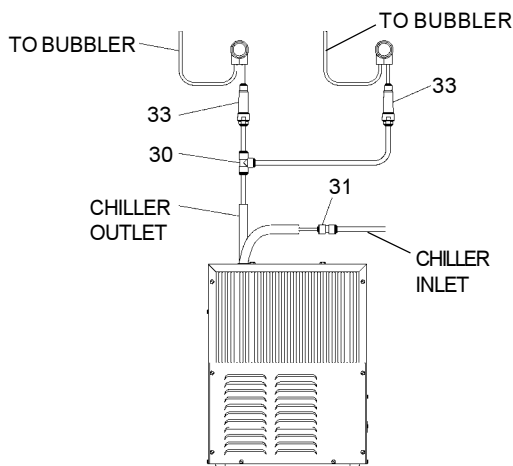
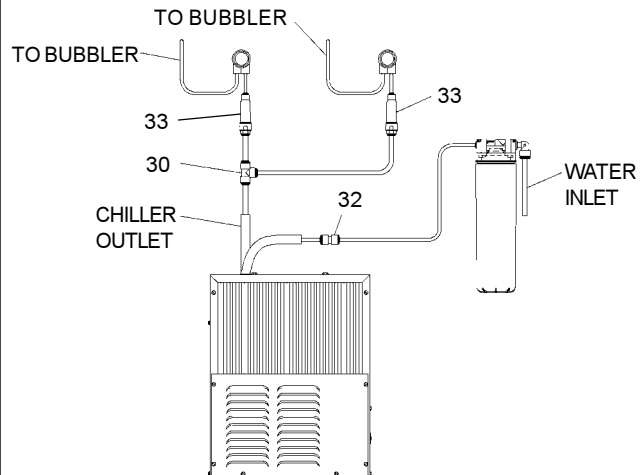
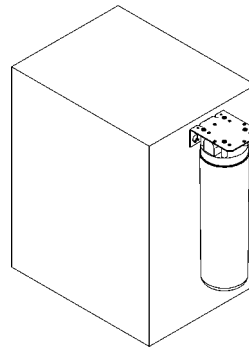

FIG. 5
FIG. 6
FIG. 7
3. **ERHPA MODELS:** Make connection between remote chiller and building supply line. Inlet port is marked on the chiller (1/4" O.D. copper tube). Bend the copper tube (provided) at an appropriate length from chiller to opening in frame. Install a 1/4" x 3/8" union (provided) on the marked chiller inlet port. Connect building supply line to union. (See Figure 5)
**LKTEA MODEL:** Mount filter head assembly to side of chiller (See Figure 7). Make connection between filter and building supply line (3/8" O.D. tube not provided). Inlet port is marked on the chiller (1/4" O.D. copper tube). Install a 1/4" x 1/4" union (provided). Bend the copper tube (provided) at an appropriate length from the filter and connect to the union on the chiller. (See Figure 6).
5. **Install** the fountain. Mount the fountain to the upper panel and the wall frame with (4) 1/4" x 3/4" (19mm) long bolts and nuts (provided). Tighten securely.
7. **ERPA MODELS:** Make connections between remote chiller outlet tube and fountain strainer. Outlet port is marked on the chiller (3/8" O.D. copper tube). Install a 3/8" tee (provided) on the marked chiller outlet port. Insert the 3/8" unplated copper water lines (provided) into the tee and the inlet sides of the strainers by pushing it in until it reaches a positive stop, approximately 3/4" (19mm). Connect 1/4" copper tubing coming from fountain to the strainer. Turn on water supply and check for leaks. **DO NOT SOLDER TUBES INSERTED INTO THE STRAINER AS DAMAGE TO THE O-RINGS MAY RESULT.** (See Figure 5).
**LKTEA MODEL:** Make connections between remote chiller outlet tube and fountain strainer. Outlet port is marked on the chiller (3/8" O.D. copper tube). Install a 3/8" tee (provided) on the marked chiller outlet port. Insert the 3/8" unplated copper water lines (provided) into the tee and the inlet sides of the strainers by pushing it in until it reaches positive stop, approximately 3/4" (19mm). Connect 1/4" copper tubing coming from fountain to the strainer. Turn on water supply and check for leaks. **DO NOT SOLDER TUBES INSERTED INTO THE STRAINER AS DAMAGE TO THE O-RINGS MAY RESULT.** (See Figure 6).
11. **Mount** lower panel. Loosen the (2) #10-24 x 5/8" (16mm) screws at frame bottom lip. Slide upper tongue of lower panel under lower edge of already installed upper panel. Tighten previously loosened screws securely.